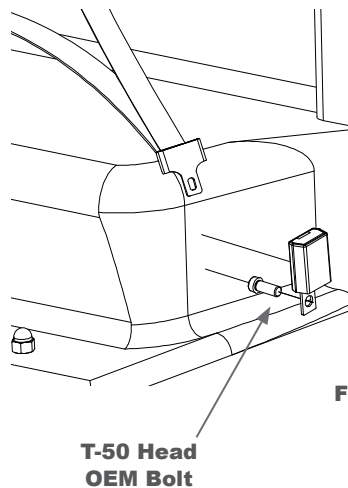

Fig. 6
F. The lower seat belt buckle should be installed at this time and before seat installation. Remove the OEM seat belt by using a torx bit driver and feed the belt behind the trim hidden away. The new lower buckles bolt right into these OEM belt locations on the passenger and driver side C-pillars using the OEM fasteners as shown in figure 6 and the main BOM diagram.